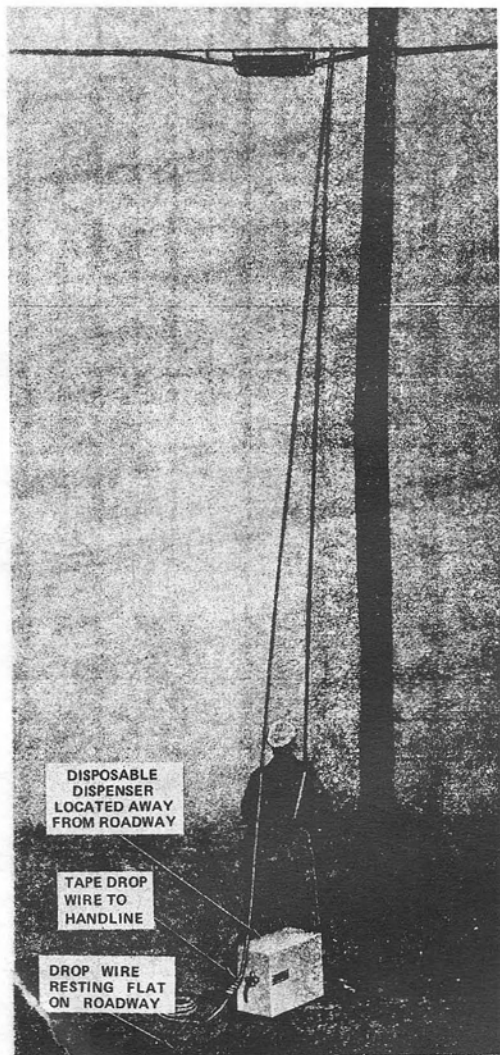

Fig. 5—Handline Taped to Drop Wire
- (e) Release the handline from the base of the pole or ladder. Estimate the amount of drop wire needed to reach the terminal. Cut the drop wire and tape the end of the drop from the building to the handline (Fig. 5).